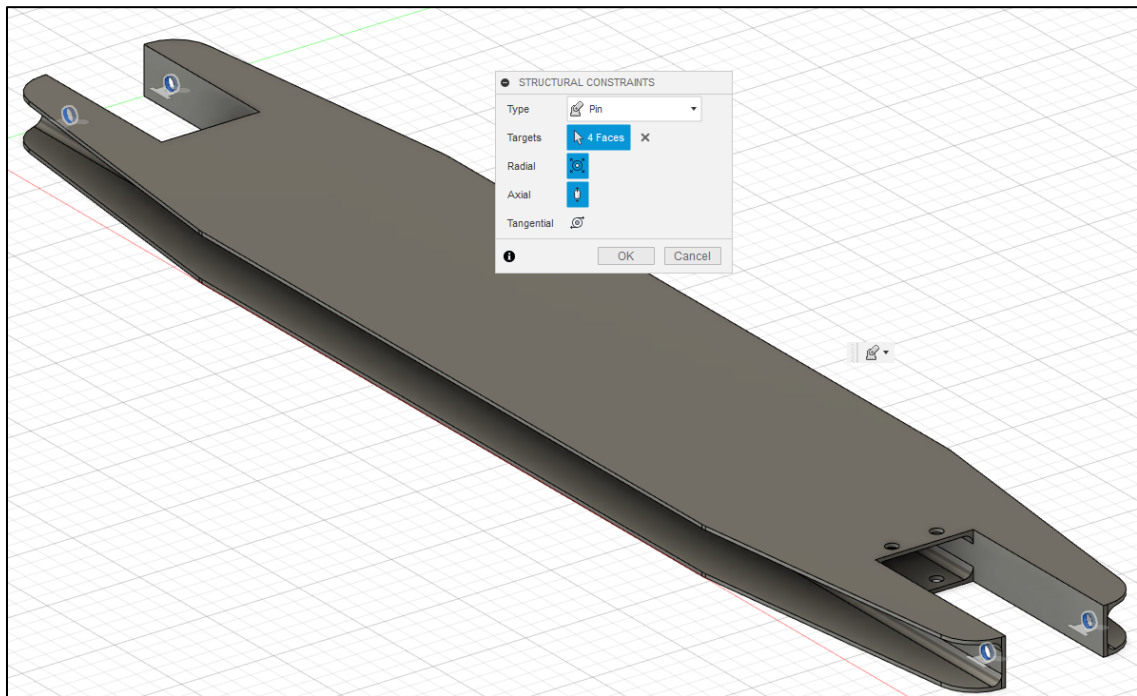

Figure 20. Setting Pin constraints at 4 corner shaft holes (in blue).
3. To set structural constraints, select the cylindrical areas of the front and back shaft holes. Under the type of constraint, select “pin” (Figure 20).